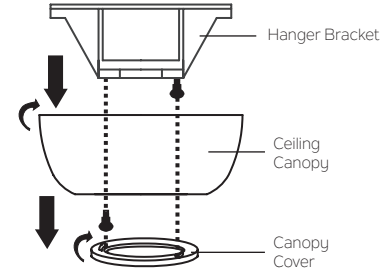

Fig. 5
**Step 1.** Remove the decorative canopy bottom cover from the canopy by turning the cover counter clockwise. (Fig. 5)
**Step 2.** Remove the ceiling mounting bracket from the canopy by removing and saving one of the two screws. Loosen the remaining screw by a half turn. (Fig. 5)